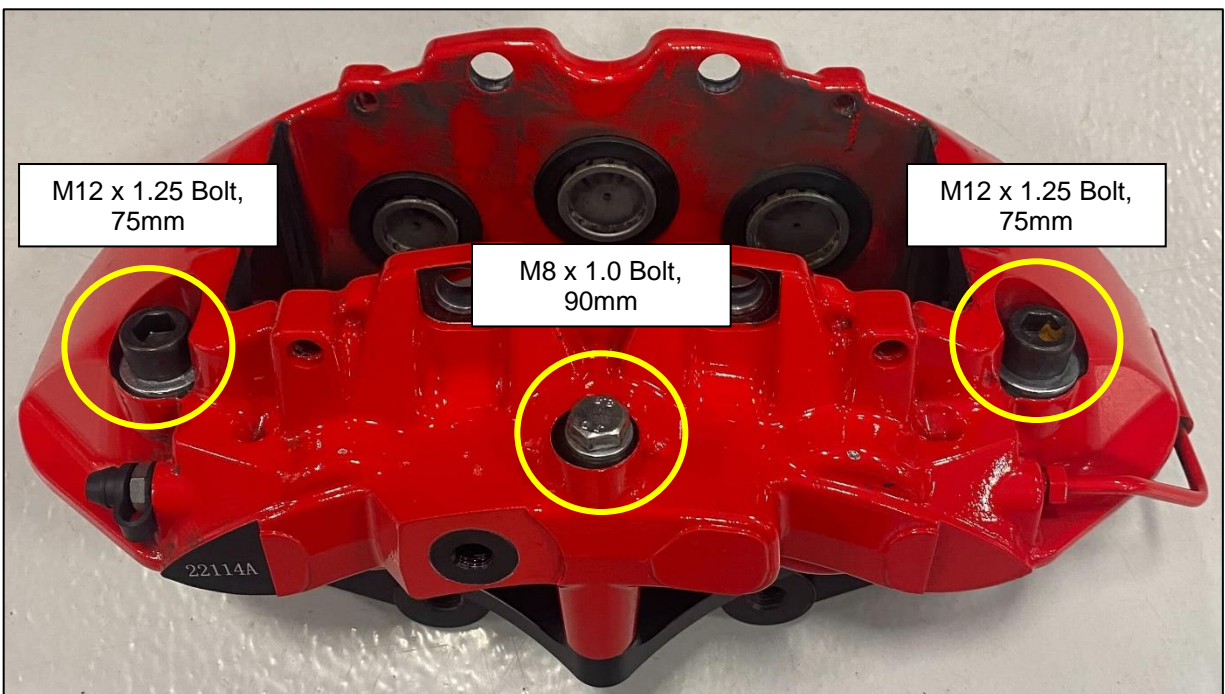

Figure 6
11. Locate (1) one Driver Side Caliper Bracket, the Brake Bracket Hardware Kit, and the Driver Side Caliper. The Drive Side Caliper will be marked with Part Number: 22114A. The Passenger Side Caliper is marked with Part Number: 22114B.
Position the Bracket on the Caliper as shown below. Secure the middle of the Caliper/Bracket with the M8 x 1.0 Hex Cap Screw and M8 Washer. Secure the outside of the Caliper Bracket with the (2) two M12 Socket Head Screws and an M12 Washer. Use of thread locker is recommended. *Figure 6.*